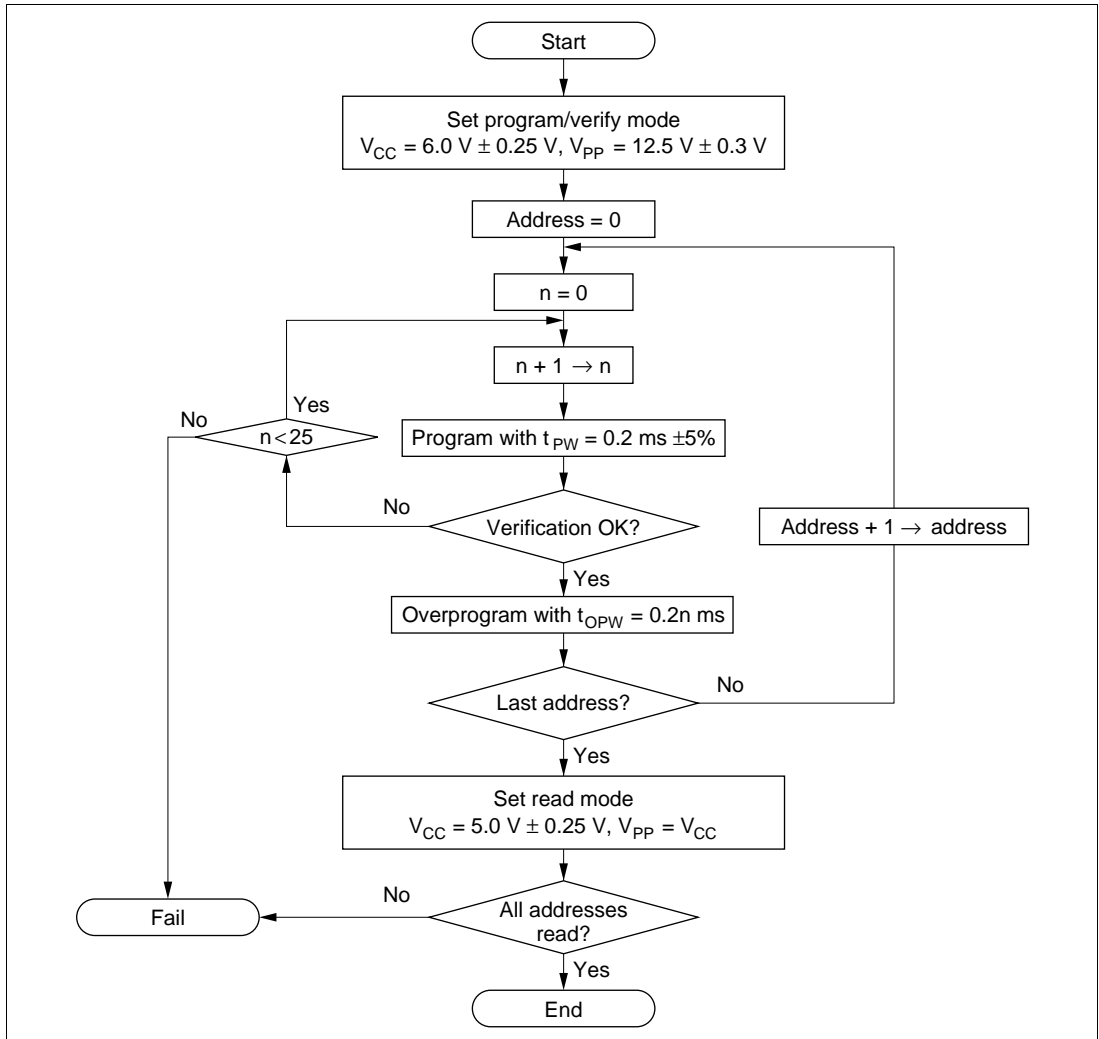

Figure 6.4 High-Speed, High-Reliability Programming Flow Chart
An efficient, high-speed, high-reliability programming procedure can be used to program and verify data. This procedure programs the chip quickly without subjecting it to voltage stress and without sacrificing data reliability. Data in unused address areas is H'FF. Figure 6.4 shows the basic high-speed, high-reliability programming flow chart.
3. t_{OPW} is defined by the value given in the hi-speed, hi-reliability programming flow chart in figure 6.4.